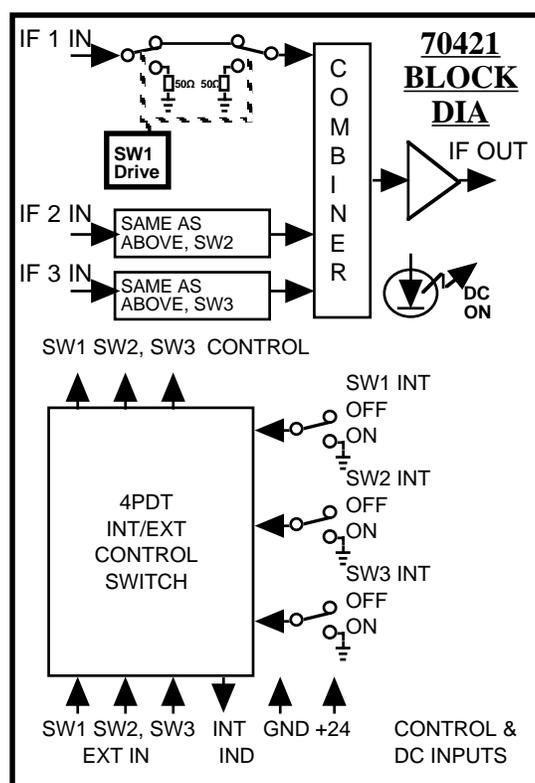

FIGURE 3.1 Block Diagram
3.1 Block Diagram Description - 70421 (Figure 3.1)